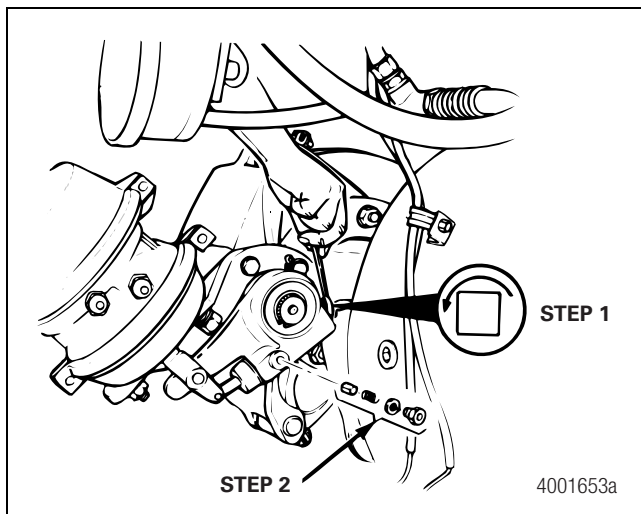

Figure 7.26
1. Turn the adjusting nut on the automatic slack adjuster to move the inboard lining against the rotor. Figure 7.26.